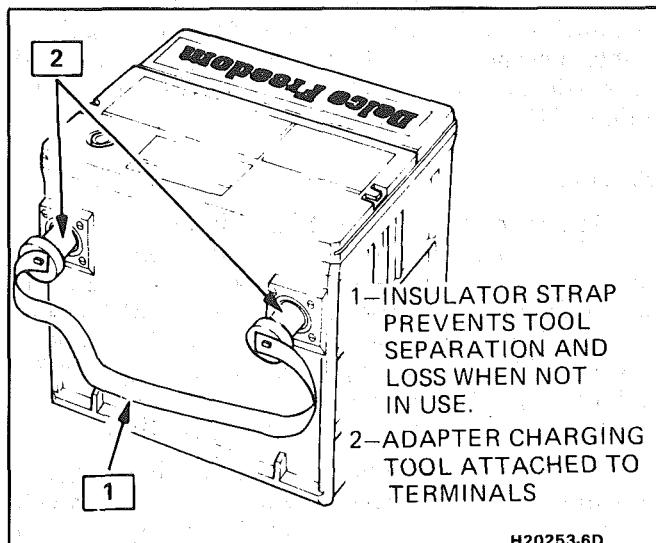

Fig. 2 Side Terminal Battery Adapters
Load testing may require use of battery side terminal adapters to insure good connections (see Fig. 2).
- When charging sealed-terminal batteries out of vehicle, install adapter kit (AC Delco part number ST-1201 or GM part number 1846855, or equivalent). (Refer to Fig. 2.) Post-type batteries need no adapters.